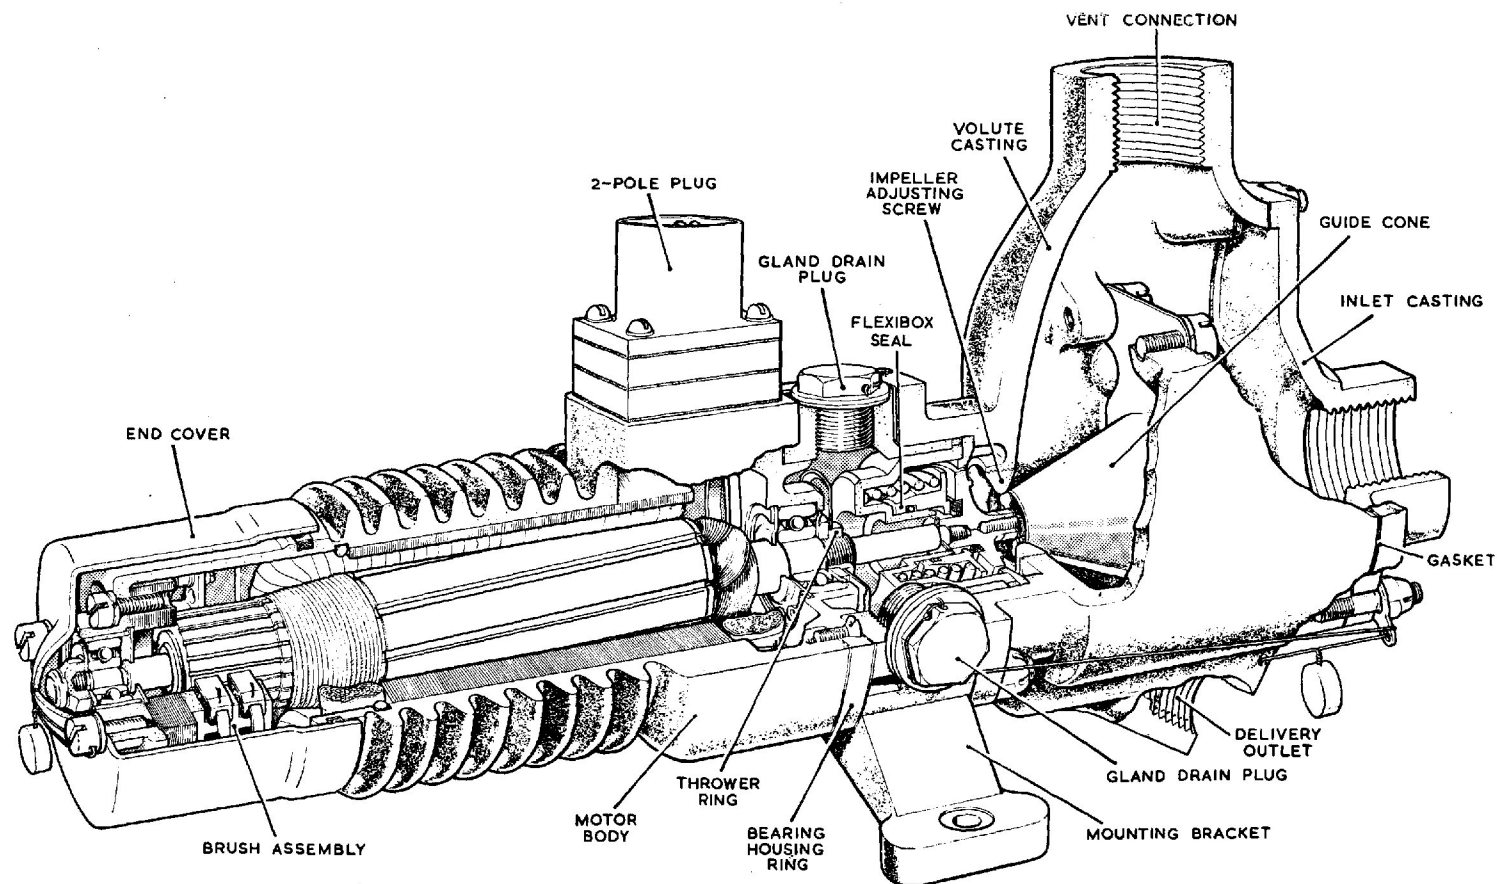

Fig. 1. Sectional view of D.I. Mk. 2 pump
2. The D.I. Mk. 2 is a unit consisting of several sub-assemblies and, as can be seen in fig. 1, is mainly composed of an electric motor driving an impeller, the spindle passing through a flexibox fuel sealing gland. The impeller chamber opens out into a large cavity containing a vapour guide cone and also connects with the vent and inlet orifices.
5. The armature shaft is fitted with ball type bearings which locate in the motor frame and bearing housing respectively as shown in fig. 1. The upper bearing is secured to the commutator end of the shaft by a self-locking nut, whilst the lower bearing is retained in a shouldered recess in the bearing housing, with a special nut designed to function as a thrower ring to dissipate any fluid which may have leaked through the gland.